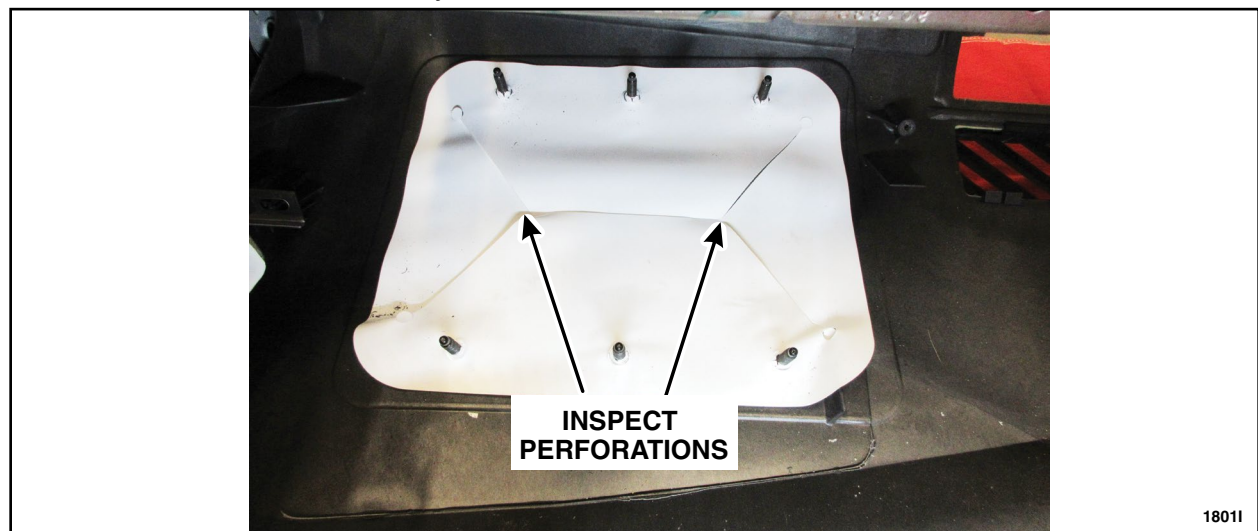

FIGURE 6
6. Inspect the white airbag cushion sheet installed on the instrument panel. See Figure 6.